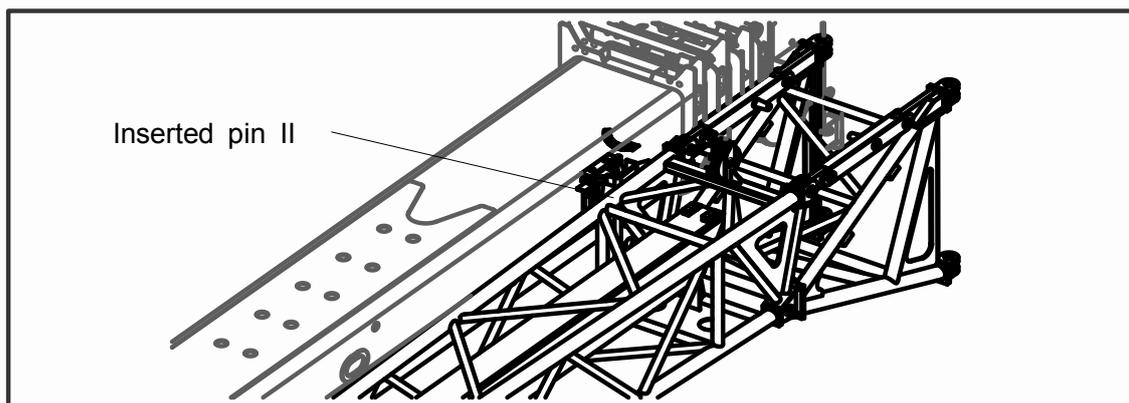

Fig.05-04
- e) Rotate the jib around inserted pin II. See Fig.05-04;